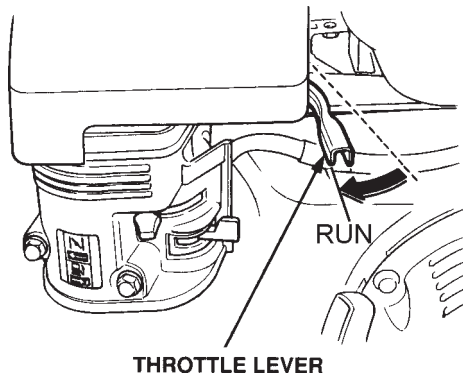

Figure 15. Throttle Lever (Run)
9. To begin pumping, place the throttle lever (Figure 15) in the “RUN” position.